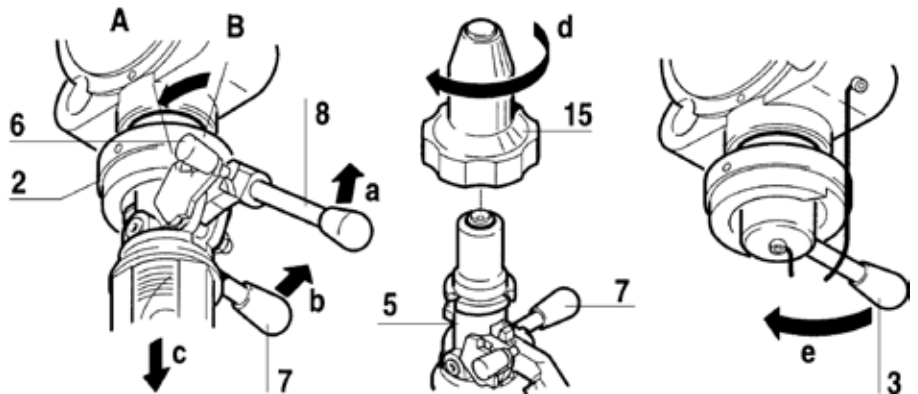

Figure 10
9.3 Detaching the piston syringe (Figure 10)